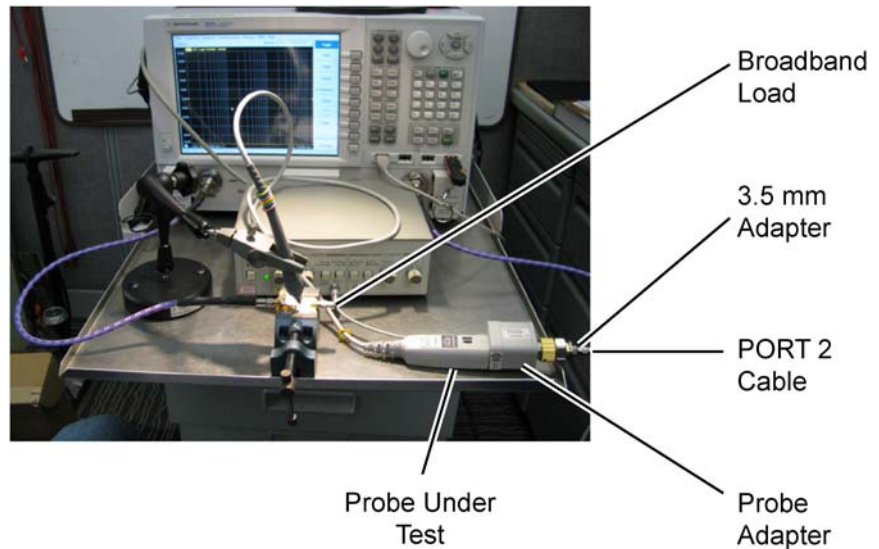

Figure 49 Measurement Setup for V_{out}
- 20 Disconnect the **PORT 2** cable from output of the PV fixture and connect the cable to the output of the probe adapter as shown in **Figure 49** on page 68.